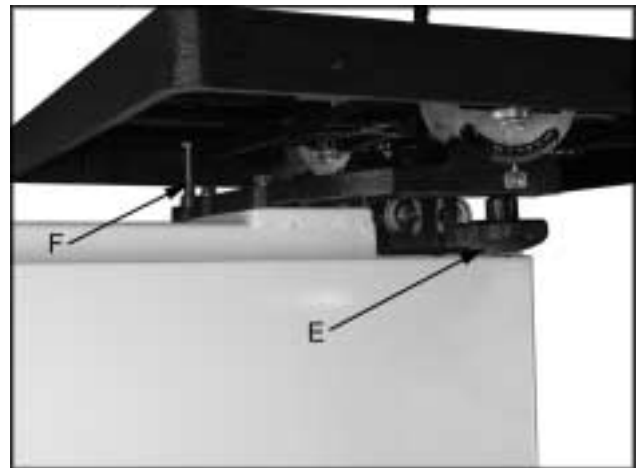

Fig. 14
2. Loosen the lock knobs (E, Fig. 14).
**Note:** Table stop bolt (F, Fig. 14) must be removed to tilt table to the left.